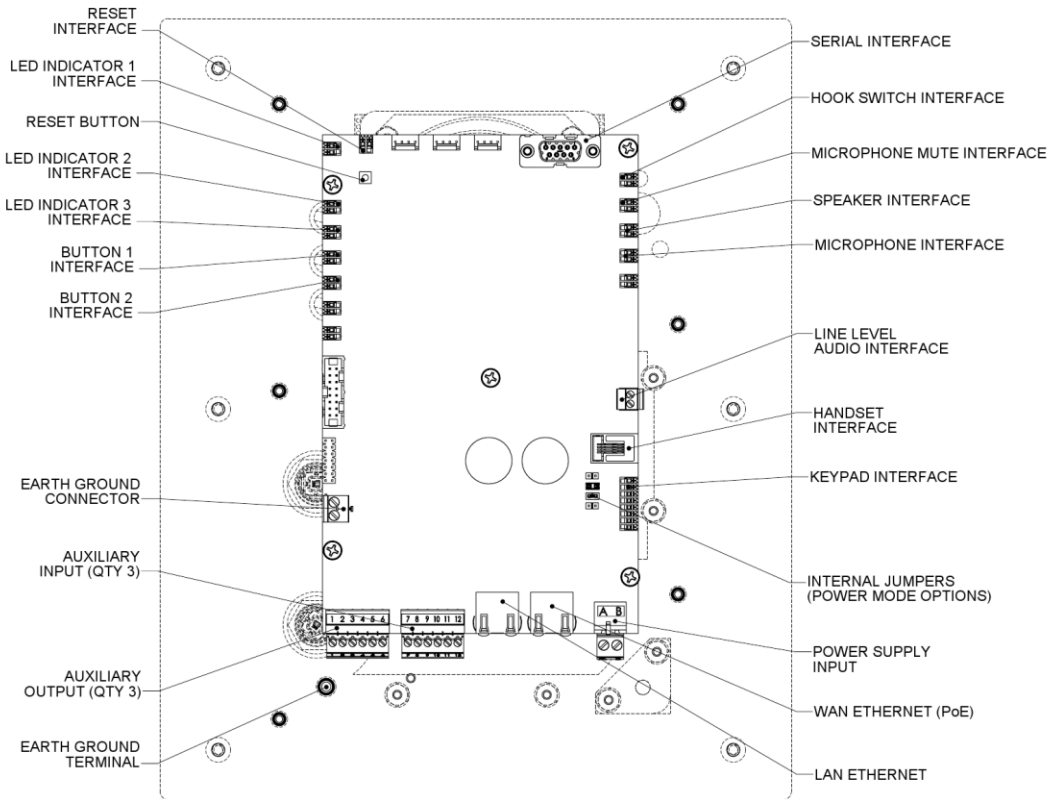

Figure 2 - Internal PCB (Printed Circuit Board) view
2. Remove the back box from the **VOIP-500 Series Phone** assembly by unfastening the six (6), #6-32 nuts and washers.
3. For PCB (Printed Circuit Board) wiring details, refer to **Figure 2**.
Power over Ethernet: Connect the Ethernet cable (Power + Data) to the WAN Ethernet port on the PCB as shown in **Figure 2**.
The faceplate of the phone must be connected to earth ground. Install a #10 ring terminal to the ground wire before connecting it to the earth ground terminal on the rear of the faceplate as shown in **Figure 2**.
Connect the Line Level Audio connector on the PCB as shown in the **Figure 2**, to the respective device on the other end, such as the WEBS® paging amplifier, recording device, speaker, etc.